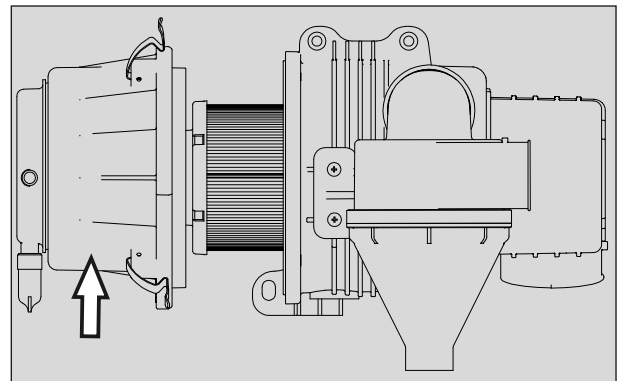

Fig. 2.6
- Remove cover from the air cleaner assembly and clean the drain plug. (Fig. 2.6)